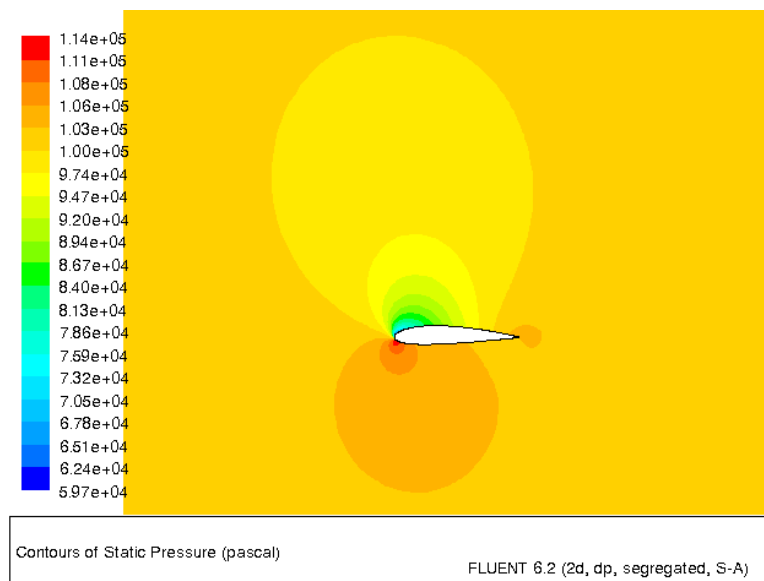

Figure 5.11: Contours of Static Pressure
3. Display pressure distribution (Figure 5.11).